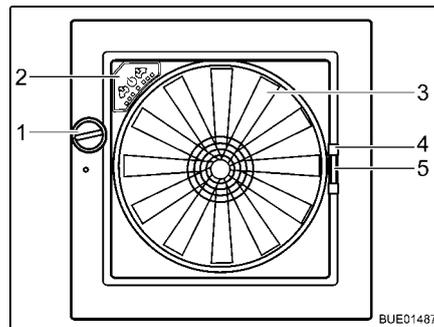

Fig. 75 Omni-Vent skylight
- Turn the knob (Fig. 75,1) until the desired opening angle is reached.
- Turn the knob (Fig. 75,1) until the skylight is fully closed.
- Using the handle (Fig. 75,4) pull the insect screen across to the other side of the frame.
- Press together the handle (Fig. 75,5) of the shade.
- Fan** If the skylight is open, the interior can be vented and aerated with the 6-speed fan (Fig. 75,3). The fan is operated via the operating panel (Fig. 75,2).